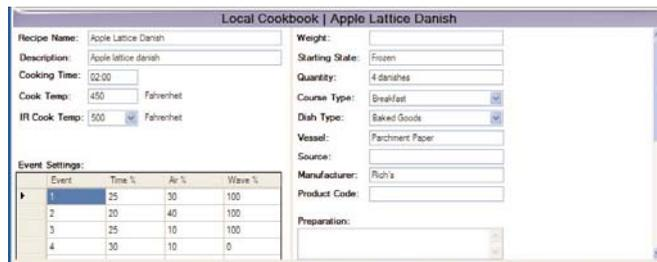

Figure 42: Edit Cookbook Settings
4. Edit the cookbook settings (Figure 42).
NOTE: In addition to storing recipe settings, the local cookbook is capable of storing helpful recipe information for the menu developer’s reference. See Figure 42 for details.
4. Take note that if a recipe is copied from a cookbook to a menu and then copied back to a cookbook, all cookbook-specific settings (Figure 42, page 14) will be lost.